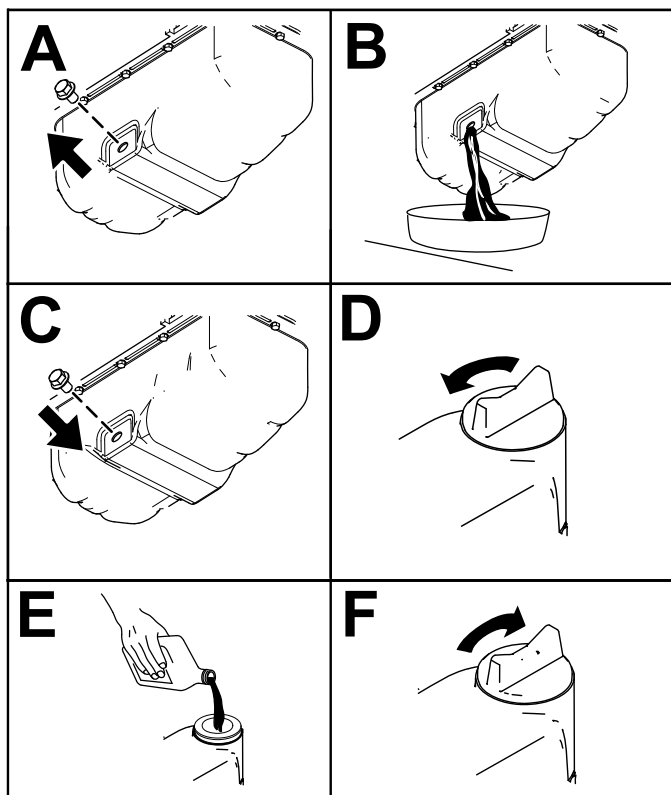

Figure 53
3. Change the engine oil as shown in Figure 53.